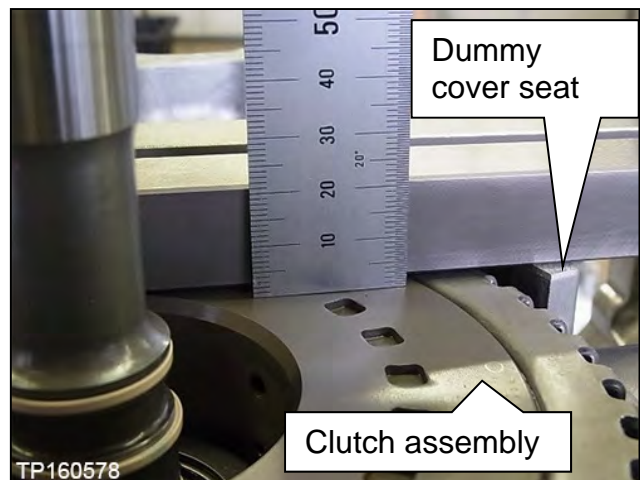

Figure 113
- The clutch assembly should sit 2-3 mm lower than the dummy cover seat (Figure 113).